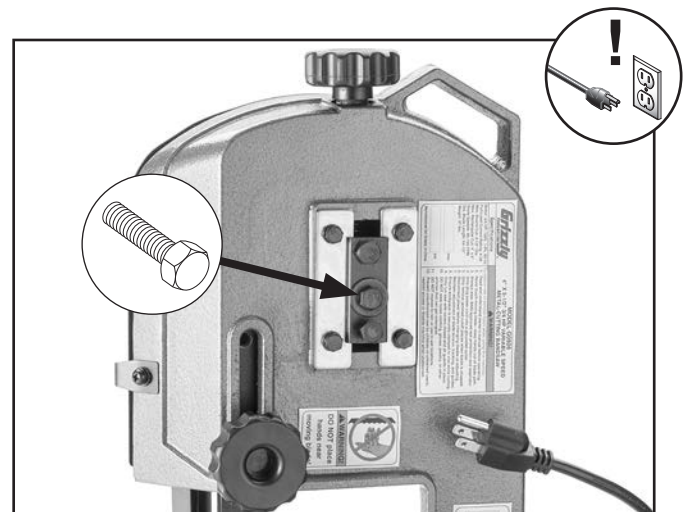

Figure 52. Blade tracking adjustments.
7. Loosen, but do not remove, hex bolt shown in **Figure 52**.